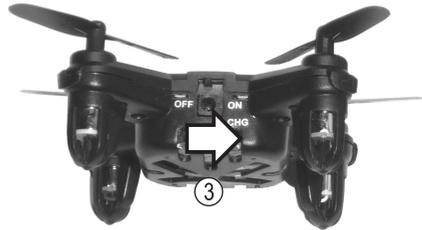

Figure 11
**Step 3:** Use the on/off switch to switch on the quadcopter. To do this, slide the switch from the "OFF" position to the "ON" position (Figure 11).